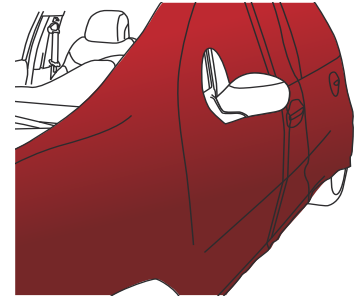

Figure 27
- › The film is now stretched over the entire surface area to be wrapped. Now you can apply the film (FIG. 27) as described in the paragraphs 4.2 to 4.4 according to the type of surface.